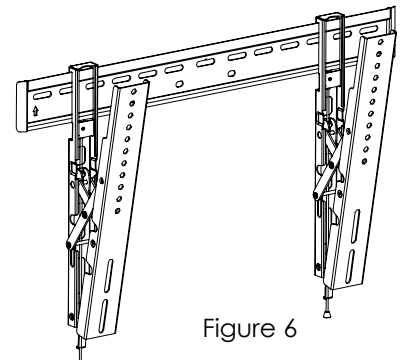

Figure 6
- a. A maximum of 12° forward tilt can be achieved (Figure 6). To increase tilt, hold the TV at the top and pull away from the wall carefully to desired position. To reduce tilt, hold the TV at the top and push back toward the wall. No locking is required.